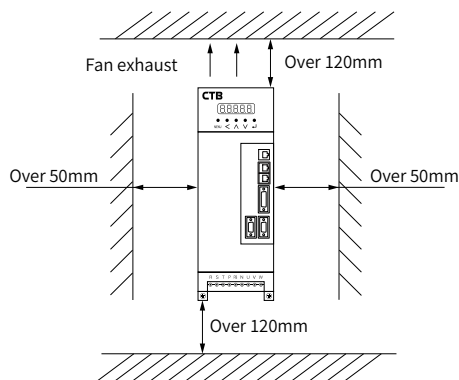

Figure 1-1 Installation of a Single Controller
- The mounting spacing and distance requirements for each driver are shown in Figure 1-1.